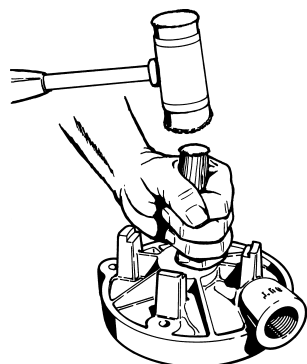

Figure 4-5
9. Before the motor bracket (#1) can be removed, the four (4) "O"rings (#8), located on the upper left and right studs must be removed.
10. Remove the Seal Stationary Seat (#125). Refer to Figure 4-5.